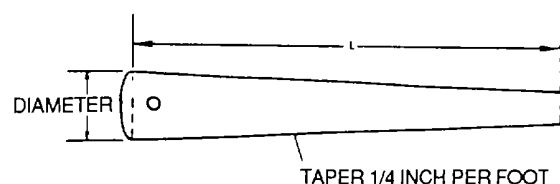

Figure 2-47. Plain Taper Pin
(1) **Plain taper pins.** Plain taper pins, MS24692, as shown in figure 2-47, are drilled at the large end and are usually safetied with lockwire.